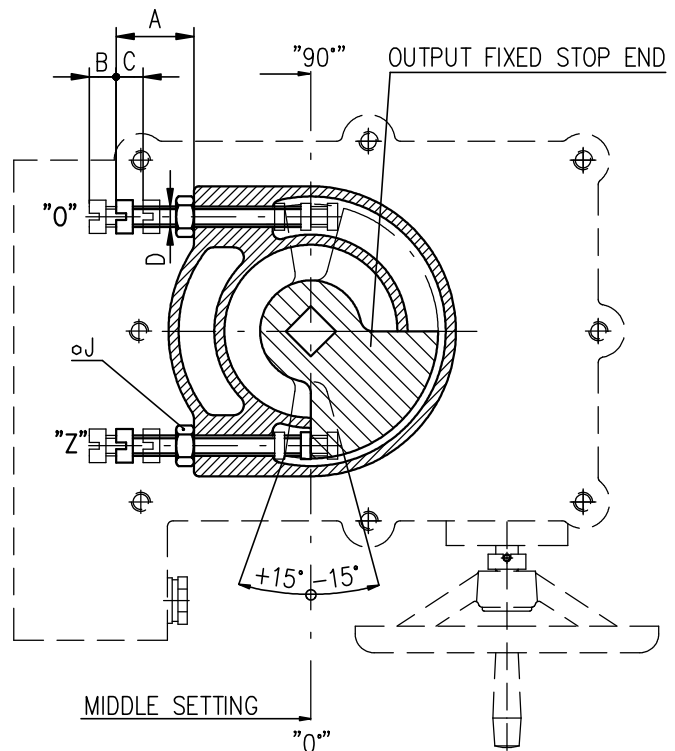

Fig.8
4.6 Resetting of operation angle and setting of stop end screws (Fig. 8)
The valve operation angle position is defined with the stop end screws which allow to change the position from the position "Z" (closed - 0°) and from the position "O" (open - 60°, 90°, 120°, 160°) by a value of ±15°. For better understanding see Fig. 8 where the output shaft is in the position "Z" for the operation angle of 90°. The stop end screws serve as mechanical limits of the operation angle position at manual control or as end travel points for torque switching-off, else the mechanical gearing could be damaged.
4.6.2 Setting of stop end screws at torque switching-off (Fig.8)